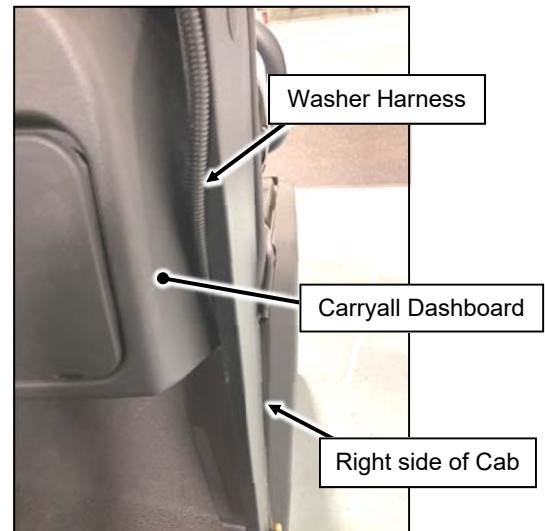

Fig. 4.3
- 4.3 Route the washer harness underneath the dashboard toward the front compartment of the Carryall. See Figure 4.3.